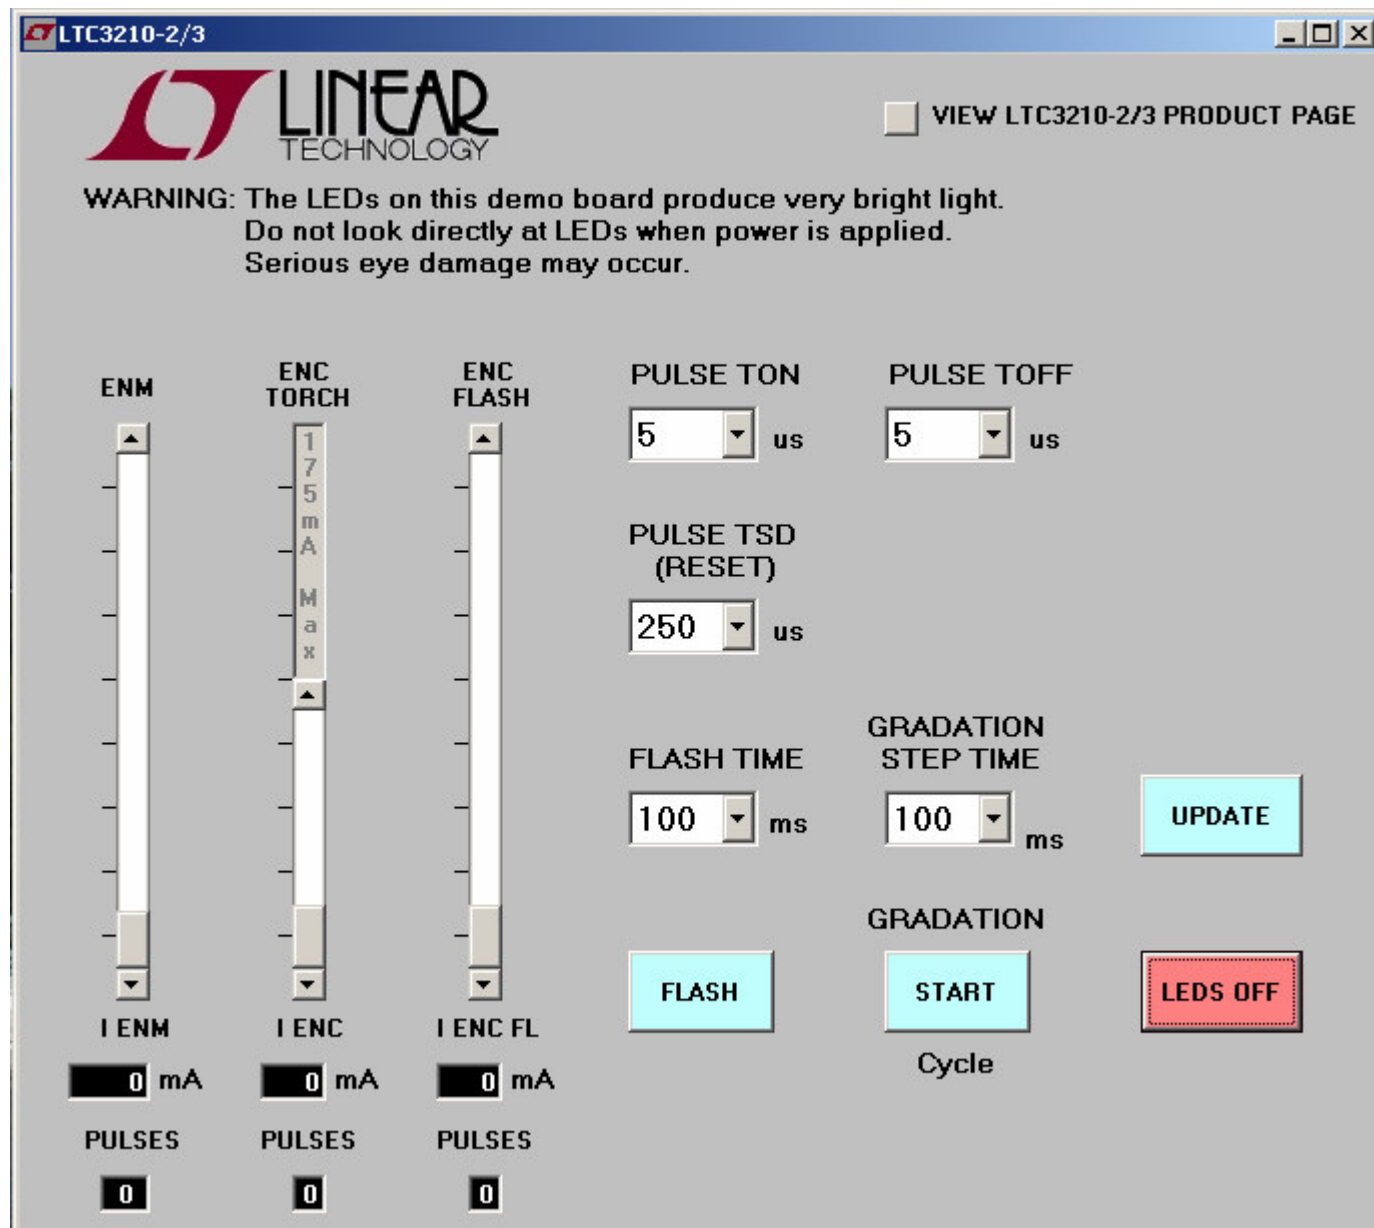

Figure 2. LTC3210-2/3 Control Window
5. Run the QuikEval™ program. The program detects the DC1071 and displays the LTC3210-2/ 3 control window (shown in Figure 2).